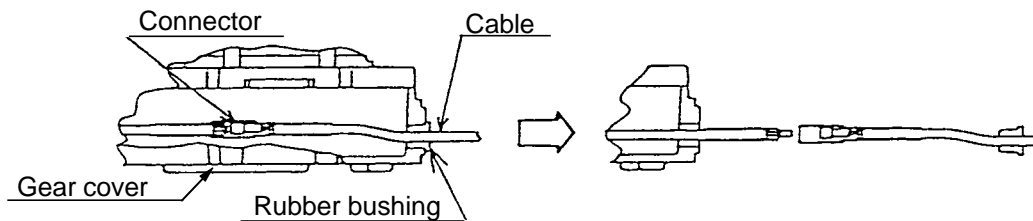
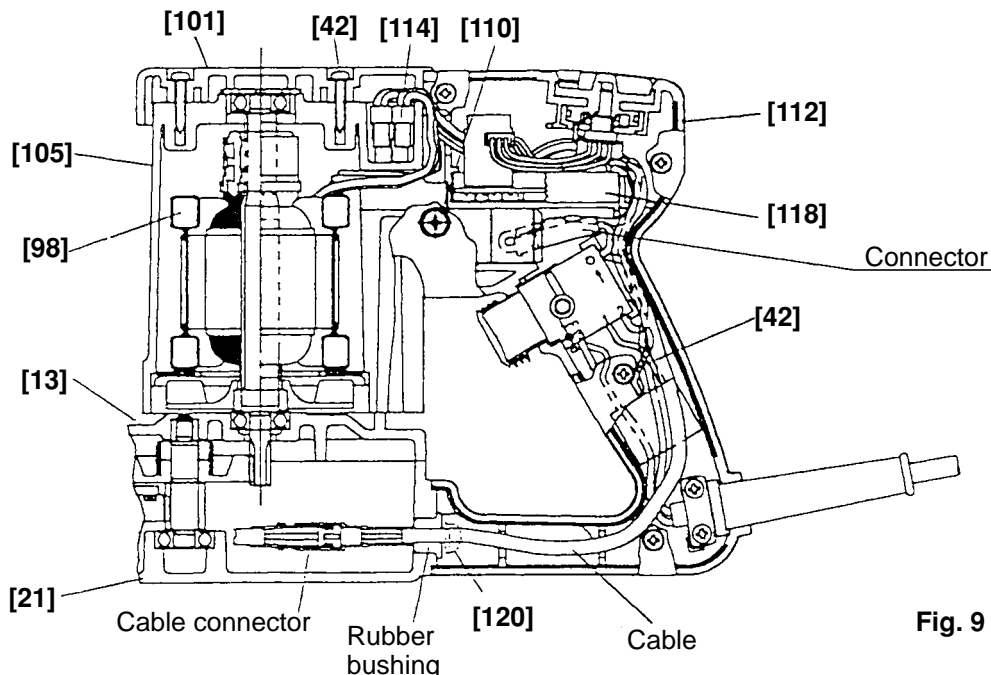

Fig. 8
Fig. 9
(1) Disassembly of the handle (Fig. 9)
- (b) Remove the two Tapping Screws (W/Flange) D5 x 20 (Black) **[111]**, four Tapping Screws (W/Flange) D4 x 20 (Black) **[42]** and two Machine Screws (W/Washers) M5 x 20 (Black) **[122]** to remove the Handle (A).(B) Set **[113]**.
(2) Disassembly of the power supply unit (Fig. 8)
(b) Disassembly of the housing (Fig. 9)
- (a) Be sure to put the connectors in the specified position when connecting the connector of the Cord [125] to the connector of the Controller Circuit [119] (Fig. 8).